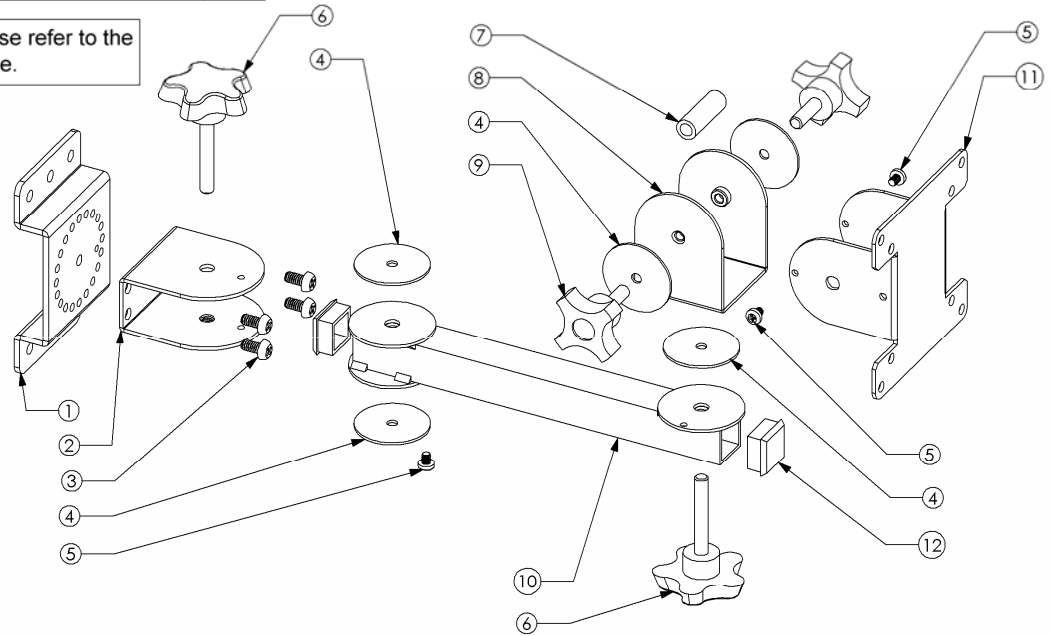

Figure 6 - UVHM-P1-VESA
4. Install the *UPMT* on the end of the arm (See Figure 6).